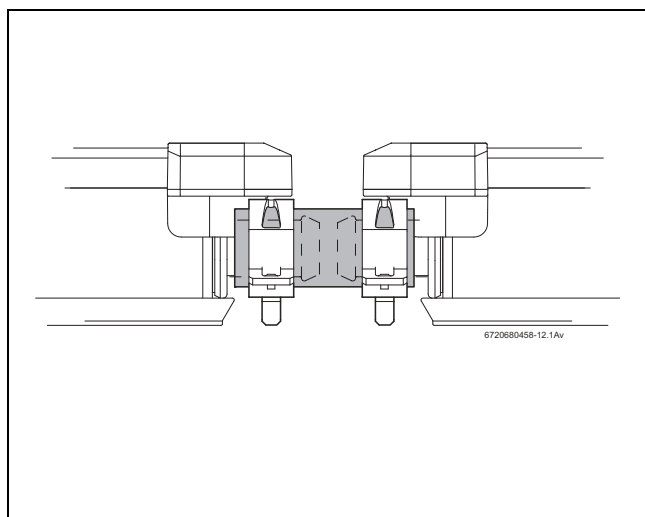

Fig. 42 Solar hose with secured hose clips
- Secure solar hoses to the collector connection with a hose clip (Fig. 42).